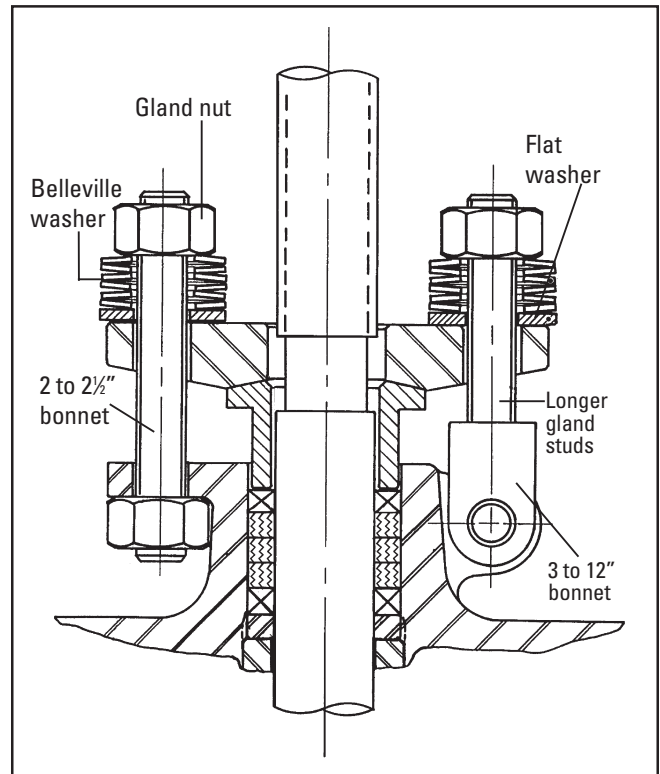

Figure 5.1K Live-loading
The basic part necessary for achieving the live-loading on packings consist of longer gland studs/eyebolts, Belleville washers , guide sleeve and guide ring (see Fig. 5.1K)
2. Check if the live-load arrangement is in correct order. Compare your live-loading arrangement with *Fig. 5.1K*. If it is not correct, open the valve to the backseat position and tighten up on the back seat firmly.